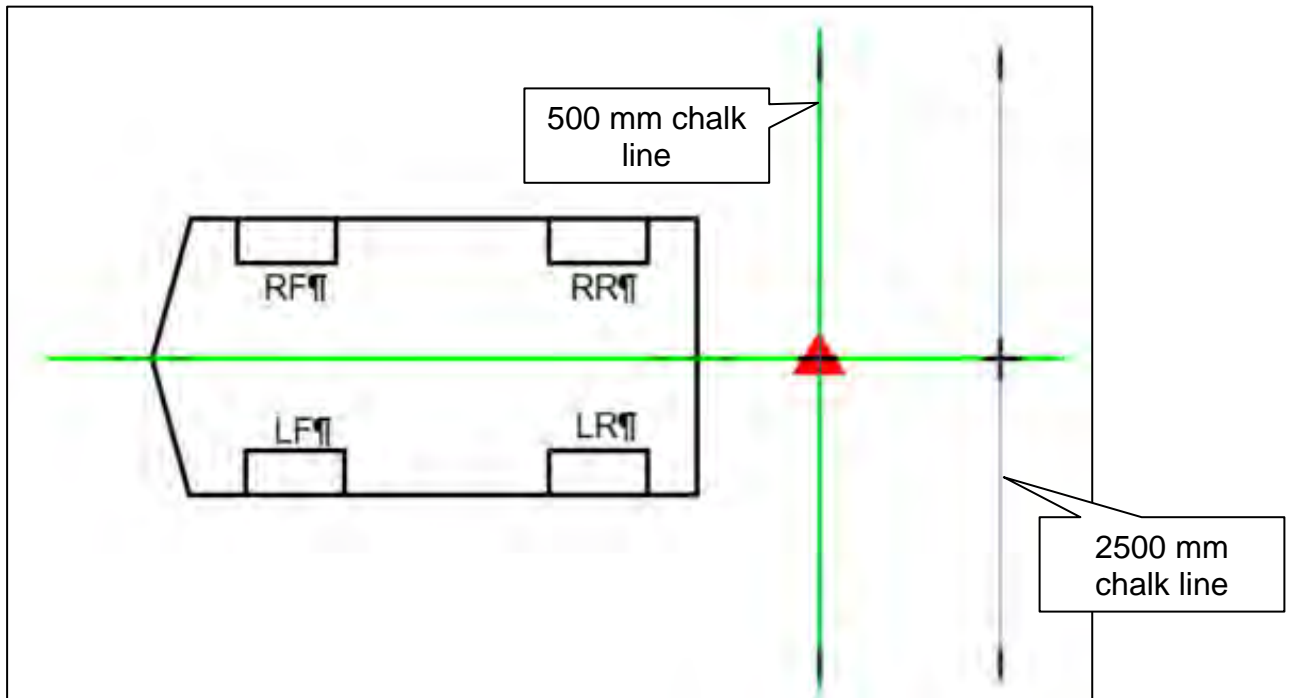

Figure 82
54. Place the laser level with both vertical lines activated, and align one laser line with the 500 mm chalk line and align the other laser line to the front and rear center point of the vehicle, as shown in Figure 82.